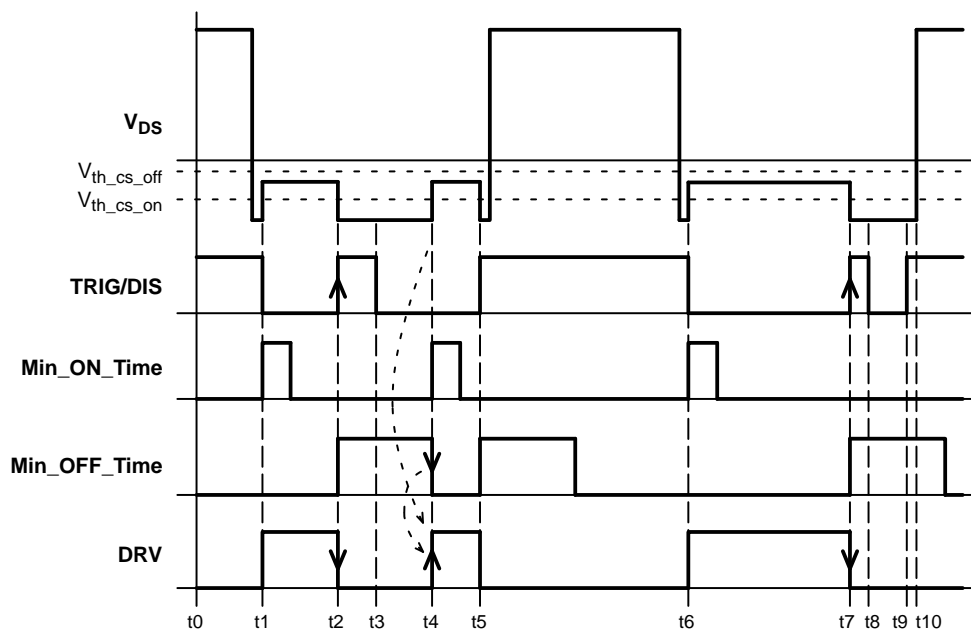

Figure 59. IC Behavior when Multiple Trigger Pulses Appear on TRIG/DIS Input
Figure 59 shows IC behavior in case the trigger signal features two pulses during one cycle of the  $V_{DS}$  (CS) signal. TRIG/DIS enables driver at time  $t_1$  and DRV turns ON because the  $V_{DS}$  voltage is under  $V_{th\_cs\_on}$  threshold voltage. The trigger signal and consequently DRV output fall down in time  $t_2$ . The minimum OFF time generator is triggered in time  $t_2$ . TRIG/DIS drops down to LOW level in time  $t_3$  but there is still minimum OFF time sequence present so the DRV output stays low. When the minimum OFF time